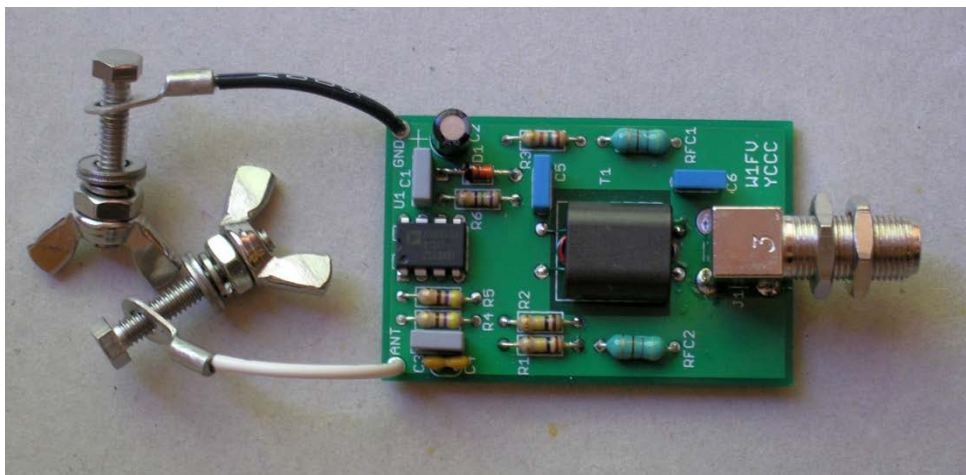

Figure 11. Feedpoint preamplifier PCB
A small soldering iron is recommended for all soldering work. The component numbers and outlines are silkscreened on the top of the PCB to make it easy to identify correct parts placement. Refer to Figure 11 as you follow these instructions. Color codes for the various resistors are provided below for easy identification. If you are still unsure about the value of a resistor, measure its resistance with an ohmmeter.
15. Solder the J1 pins to the foil side of the PCB. This will place J1 on the top of the board, the same side as the components as shown in Figure 11.
Cut off all excess component lead lengths on the bottom side of the PCB. A finished PCB is shown in Figure 11.